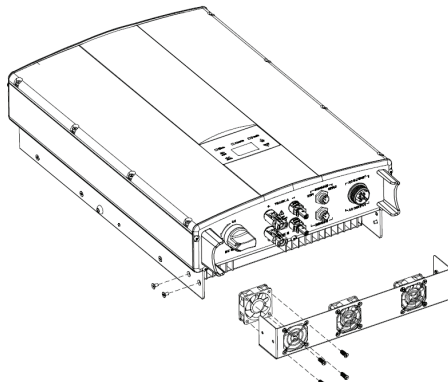

Figure 21 Disassemble the fan box
- (1) Disconnect AC breaker;
- (2) Turn the DC switch to "OFF" position;
- (3) Wait for at least 10 minutes;
- (4) Disconnect all the electrical wirings at the bottom of the inverter;
- (5) Lift up the inverter with the help of others and take the inverter off the wall;
- (6) Place the inverter on the operation platform;
- (7) Disassemble the fan box as shown in Fig 21;